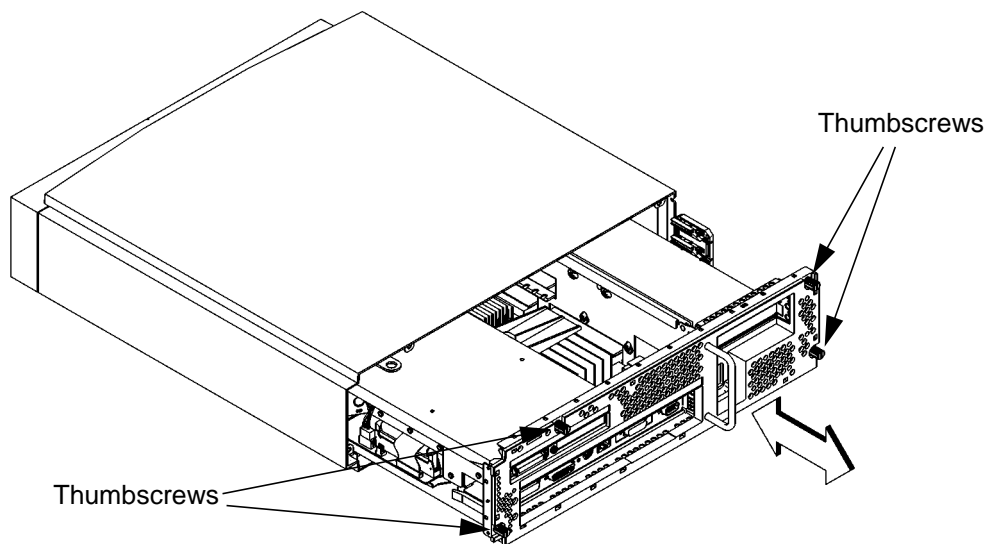

Figure 22 **Replacing the Main Tray Assembly**
- 1 Align the main tray assembly with the chassis, aligning the tray with the ridges on the bottom of the case, and slide it into place, as shown in Figure 22.
- 3 Tighten the four thumbscrews, as shown in Figure 22.